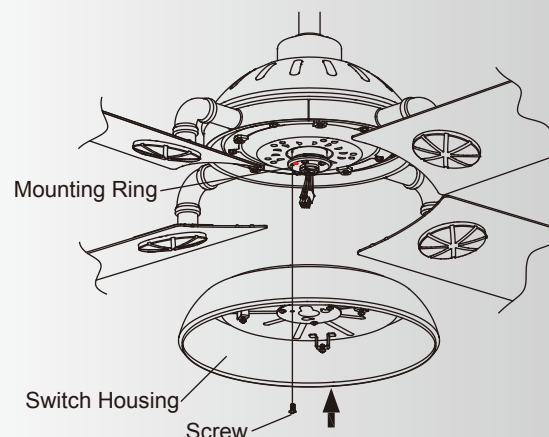

Fig. 18
**Step 1.** Remove the screw nearest the red dot label on the mounting ring and loosen the other two (do not remove). Let the 9-pin connector from motor body through the middle hole of switch housing. Align the two slot holes on the switch housing over the 2 screws previously loosened from the mounting ring. Turn the switch housing until it locks in place at the narrow end of the key holes. Securely tighten all three screws. (Fig. 18)